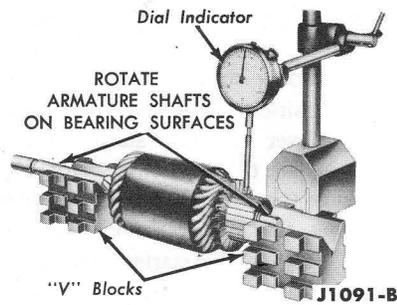

FIG. 12—Commutator Runout Check
3. Check the commutator runout (Fig. 12) and, if necessary, turn down the commutator.
Check the commutator run-out as shown in Fig. 12. If the surface of the commutator is rough or more than 0.002 inch out-of-round, turn it down.